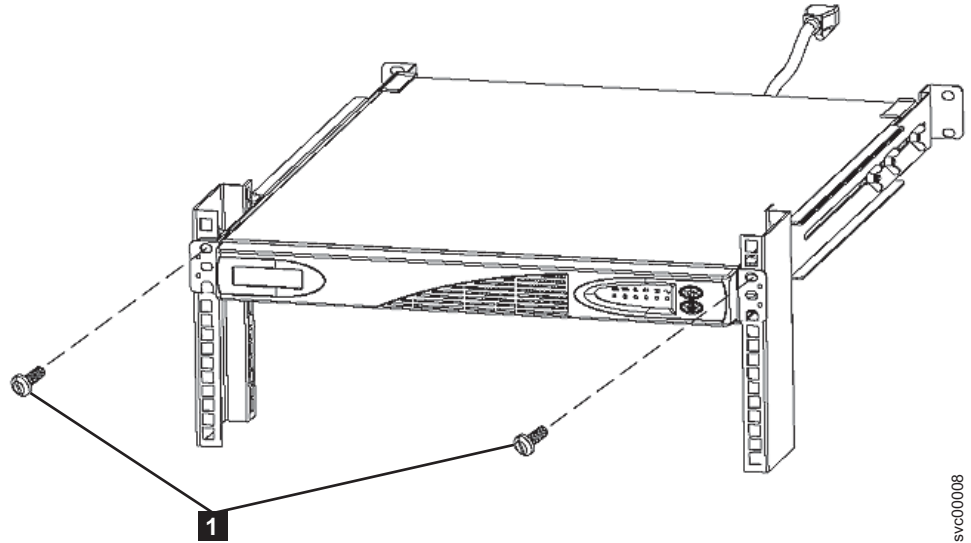

Figure 58. Removing the mounting screws from the uninterruptible power supply 5115
5. At the front of the UPS 5115, unscrew the two mounting screws **1**. See Figure 58 on page 189.